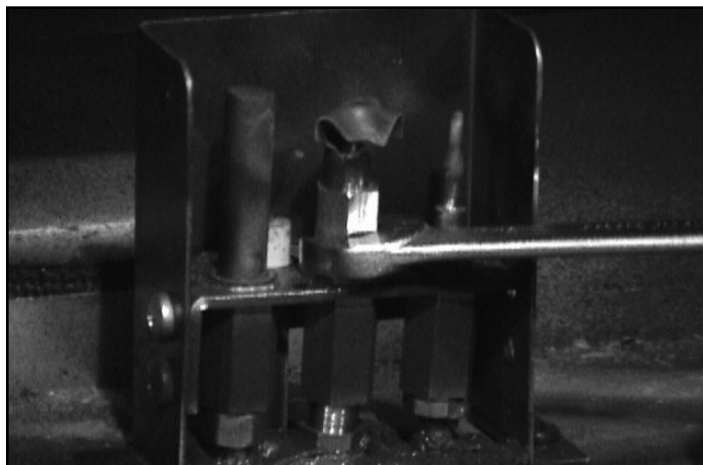

Figure 1.7 Loosen the Pilot Hood (CD & Designer Series)
- Loosen the nut until the pilot hood becomes loose from the pilot assembly. See Figure 1.7.